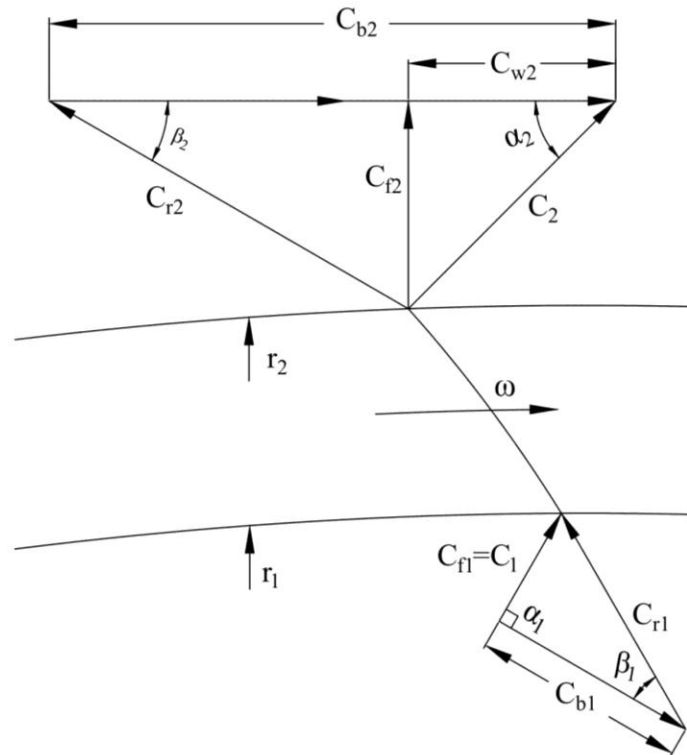

Figure P 6.1 Velocity Triangles of Centrifugal Blower of Problem 6.1
From Equations (2) and (4), $C_{w2} < C_{b2}$, therefore, impeller blades are backward curved ones for which velocity triangles at inlet and outlet are shown in Figure P 6.1. Since, air enters the impeller of centrifugal blower without any whirl component, therefore, $C_{w1} = 0$. From the velocity triangle at exit,